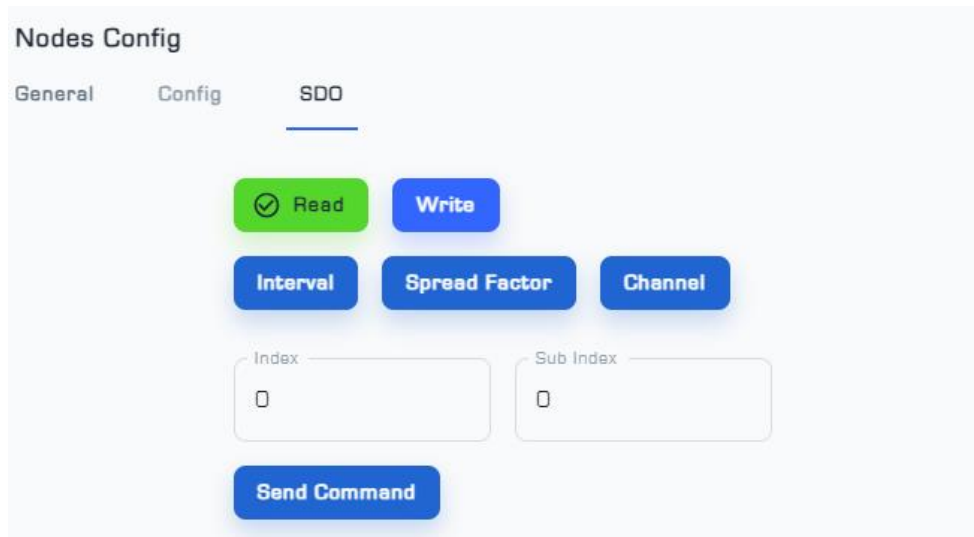

Figure 6: SDO Menu from Nodes Setting page
■ The SDO menu is used to change the parameters of Interval ¹, Spread Factor, and Channel² (Figure 6).